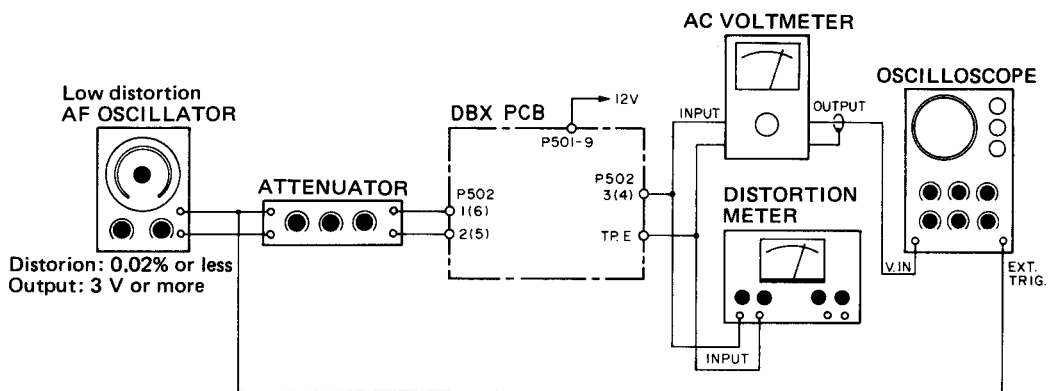

Fig. 5-13
4. Change the connections to Fig. 5-13, then feed a 1 kHz/ $-8$  dB (308 mV) input signal to the INPUT terminal. Adjust R54/R64 (ENCODING LEVEL) so that AC voltmeter reads  $-8$  dB (308 mV).